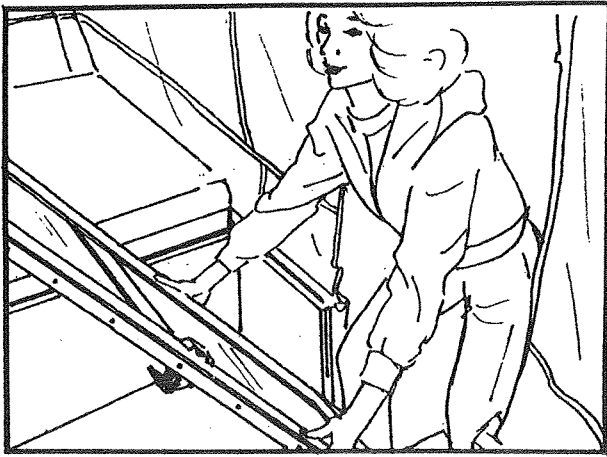
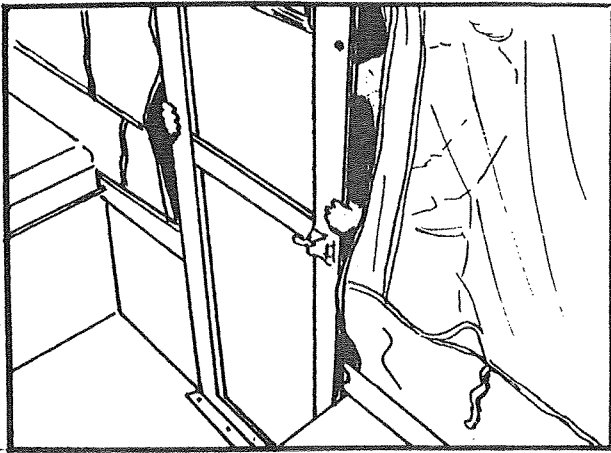
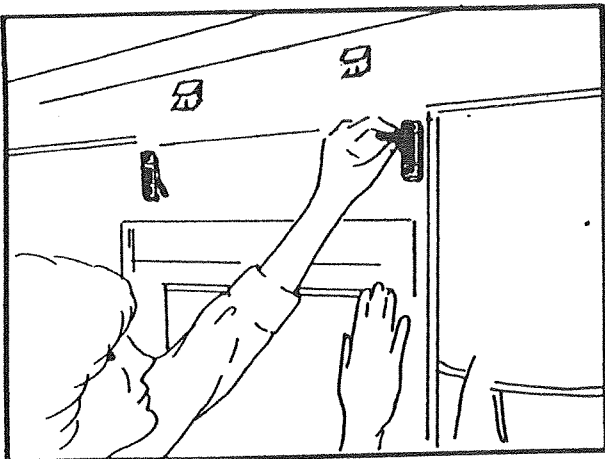

FIGURE 24
FIGURE 25
FIGURE 26
16. Step inside the trailer, lock the screen door, and release the top door retainer. See Figure 26. Step outside the trailer and grasp the doorframe with both hands, one on each side, lift up and remove from the door threshold and allow the door to tip inward. See Figure 25. Lift up and push the top of the door toward the far side of the trailer. See Figures 24 and 23. The large opening of the keyhole slots located on the door must be lowered onto the door storage retaining pins. Move door slightly to curbside to be certain pins are fully engaged and snap retaining snaps.